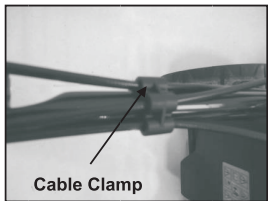

Fig.2F
5. Attach the cable-clamp to the position shown and then attach the cable. (Fig.2F)